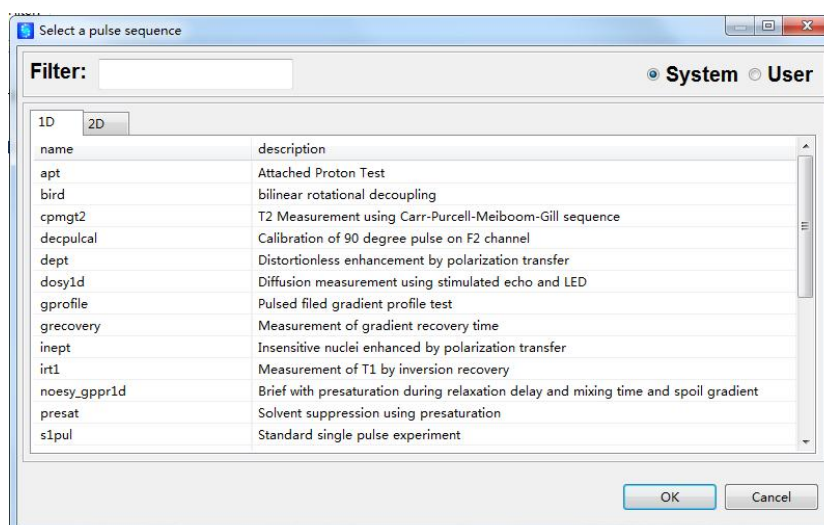

Figure 2.40 Pulse sequence selection dialog
There are three ways for parameter setup: (1) directly entering a value for parameter, such as ns, gain, sw, frqo; (2) clicking to open a drop-down list for selecting a value for the parameter, such as solvent, arraymode, nuc; (3) clicking to activate the **A** button, clicking which will open a dialog box displaying options for selection, such as pulseseq (Figure 2.40). User can select pulse sequence from **System** library or **User** library, with Filter to